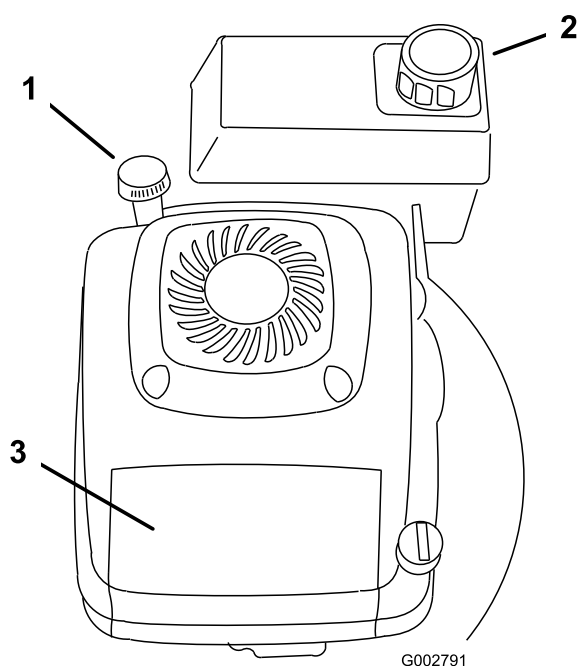

Figure 12
1. Clean around the fuel tank cap (Figure 12).